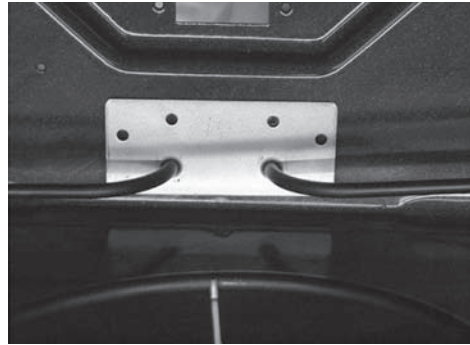

Fig. O-6
4. Remove the (2) screws holding the element from inside the oven (**Fig. O-6**).